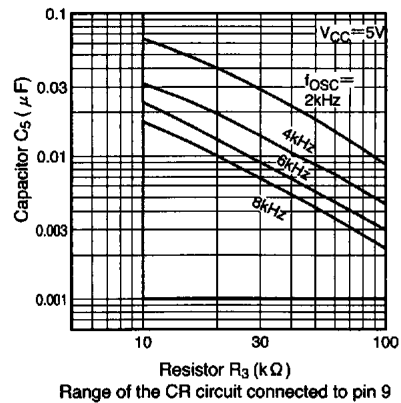

Fig. 9
(1) Use the potentiometers VR1 and VR2 connected to pins 1 and 3 to set the 0dB levels and adjust the channel 1 and channel 2 balance.
(2) The recommended oscillator frequency is 4kHz (pin 9). The external component values for C_5 and R_3 are $0.01 \mu F$ and $41k\Omega$ (or $39k\Omega$). If you wish to use other values, they should be in the ranges $0.001 \mu F$ to $0.1 \mu F$ and $10k\Omega$ to $100k\Omega$. (see Fig. 9).
(3) The dynamic ranges for the BA6820F and BA6822S/F comparators are large, and the comparators will operate even with low-level signals.